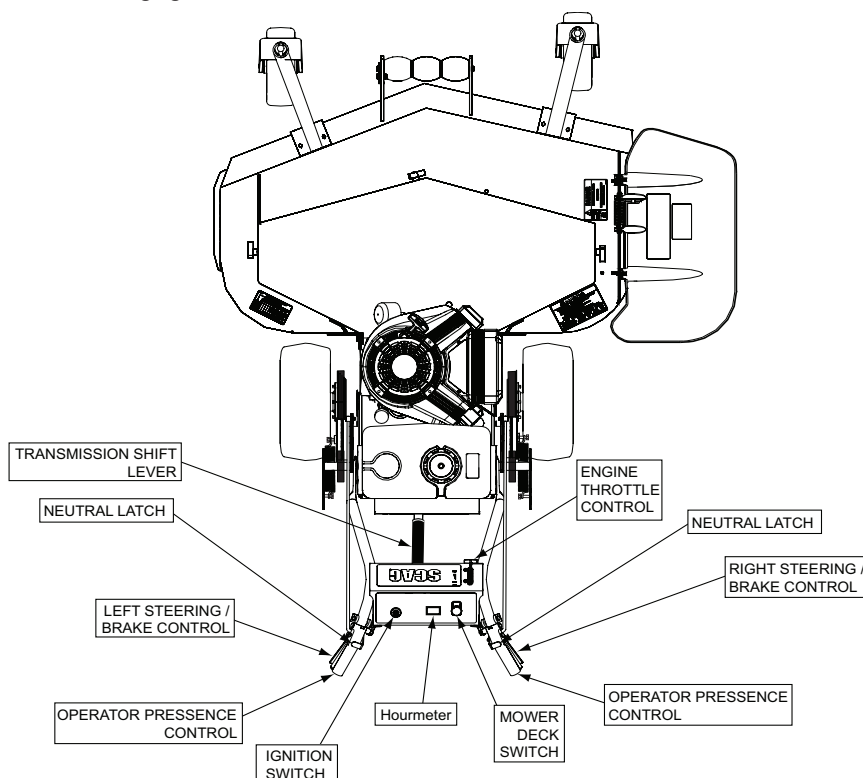

Figure 4-1. Controls and Instruments
1. **Ignition Switch (Figure 4-1).** The ignition switch is used to start the engine. Turn the key to the on position before pulling the recoil starter.
2. **Mower Deck Switch (Figure 4-1).** Use to engage and disengage the mower drive system. Pulling up on the switch will engage the deck drive. Pushing down on the switch will disengage the deck drive.
3. **Engine Choke Control (Figure 4-1).** Use to start a cold engine.
4. **Engine Throttle Control (Figure 4-1).** Use to control the engine speed. Pushing the lever forward increases engine speed. Pulling the lever back decreases engine speed. Full back position is the IDLE position. Full forward is the cutting position.
5. **Left Steering / Brake Control (Figure 4-1).** Use to control the mower's left wheel when traveling forward or reverse. Pull upward to apply brake.
6. **Right Steering / Brake Control (Figure 4-1).** Use to control the mower's right wheel when traveling forward or reverse. Pull upward to apply brake.
7. **Hour Meter (Figure 4-1).** Indicates the number of hours the engine has operated. It operates whenever the engine is running. Has preset maintenance reminders for engines and hydraulic system oil changes. Will start flashing scheduled maintenance 2 hours before preset time and continue flashing until 2 hours after. Automatically resets.
8. **Transmission Shift Lever (Figure 4-1).** Use to select the forward speed or selecting reverse. The machine must be at a complete stop before shifting between gears or shifting between forward and reverse.
9. **Neutral Latch (Figure 4-1).** Use to secure the belt drive system in neutral. Apply neutral latches when parking the machine.
10. **Operator Presence Control (Figure 4-1).** The operator presence control levers must be depressed before the transmission is shifted out of neutral or engaging the mower deck.